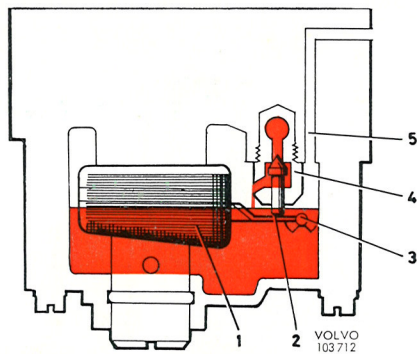

Fig. 2-69. Float system
Fuel flows into the floatchamber via the float valve (4, Fig. 2-69). The float (1), which is made up of twin expanded rubber floats, is carried on a bridge in the lower part of the carburettor housing. As the fuel level rises, the float lifts and, by means of the float arm (2) and tag, closes the needle on its seating when the correct level has been attained.